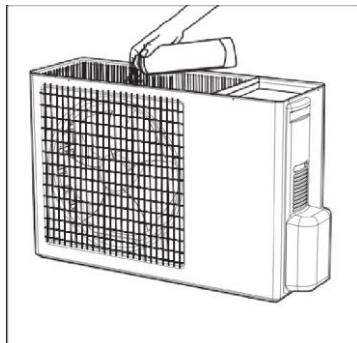

Figure 28. Spraying the coil.
3. Carefully clean the coil with a vacuum cleaner (see Figure 28 on page 45).